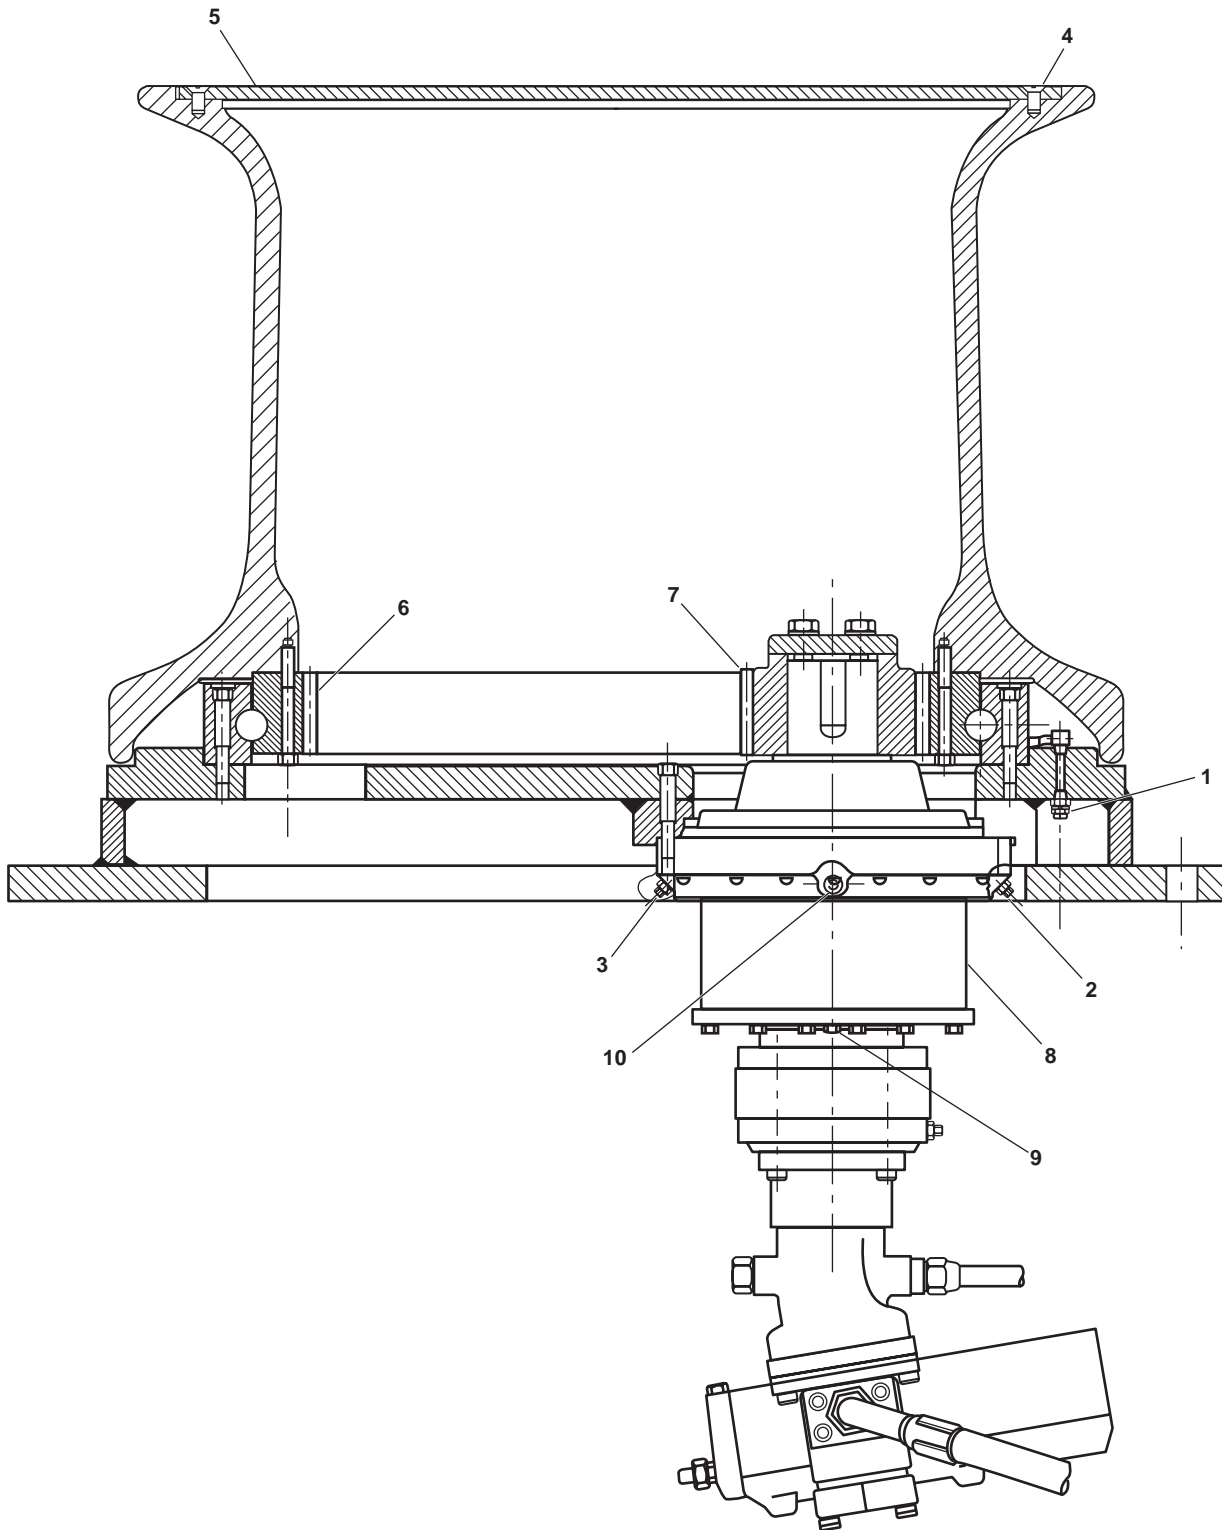

Figure 1. Capstan Lubrication Points
1. Apply two pumps of grease to each of the two zerk fittings (figure 1, item 1). These fittings are located on opposite sides of the capstan base and can be accessed from AMS 2.
2. Pump grease into the single zerk fitting (figure 1, item 2) on the power wheel planetary gear until grease begins to come out the relief fitting (figure 1, item 3). This fitting may be accessed from AMS 2.
3. Remove the 16 bolts (figure 1, item 4) that secure the top cover (figure 1, item 5). Remove and set aside the top cover.
4. Use a brush to coat the internal gear (figure 1, item 6) and pinion (figure 1, item 7) with exposed wire rope grease.
5. Install the top cover (figure 1, item 5) and secure it with the 16 bolts (figure 1, item 4).
1. Position a suitable drain pan under the power wheel planetary gear (figure 1, item 8).
2. Remove the drain plug (figure 1, item 9) from the power wheel planetary gear (figure 1, item 8) and allow the oil to drain into the suitable drain pan.
3. Remove the fill/level plug (figure 1, item 10) to permit the power wheel planetary gear (figure 1, item 8) to vent while it is draining.
5. After the gear lubricating oil has finished draining, install the drain plug (figure 1, item 9).
6. Fill the power wheel planetary gear (figure 1, item 8) with gear lubricating oil through the fill/level plug (figure 1, item 10) opening until lubricating oil is at the level of the fill/level plug opening.
7. Install the fill/level plug (figure 1, item 10) in the power wheel planetary gear (figure 1, item 8).